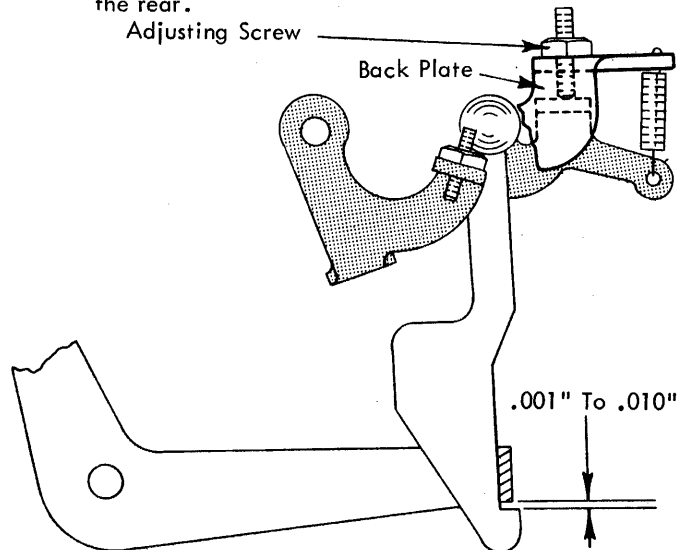

FIGURE 203. Carrier Return Latch Height Adjustment (11 Inch Machine)
1. Carrier Return Latch Height (11 inch machine) - With the carrier return/index cam at rest, adjust the carrier return latch height by the adjusting screw on the backplate (Fig. 203) so that the latch will pass under the cam follower by .001" to .010" when it is released to the rear.